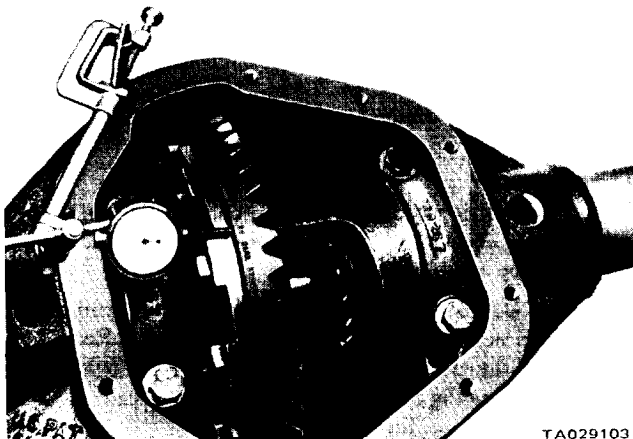

Figure 19-1. Measuring Drive Gear Runout.
- (1) Remove the axle shaft (see TM 9-2320-266-20).
- (2) Position the carrier and tube assembly in a vise or a suitable holding device with the carrier cover facing upward. Thoroughly clean the outer area of the carrier and tube with cleaning solvent. Blow dry with compressed air.
- (3) Loosen and remove the cover screws and remove the carrier cover. Tilt the assembly and drain the lubricant into a container.
- (4) Use a cleaning solvent to wash and clean the differential, bearings, gear ring and pinion, and internal surfaces. Blow them dry with compressed air.
- (5) Mount a dial indicator on a pilot stud (figure 19-1) to measure the drive gear back face runout. Load the indicator stem slightly with the plunger at right angles to the back face of the drive gear.